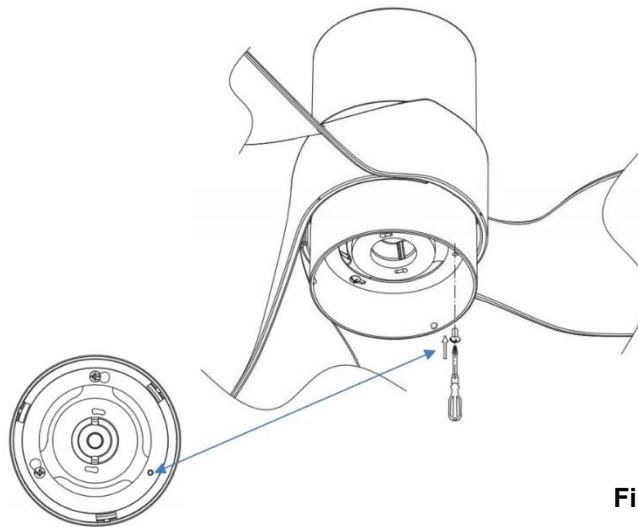

Fig. 8c
3. Secure screw (1) to the light housing. Tighten all three screws. Do not over-tighten. (Fig. 8c)